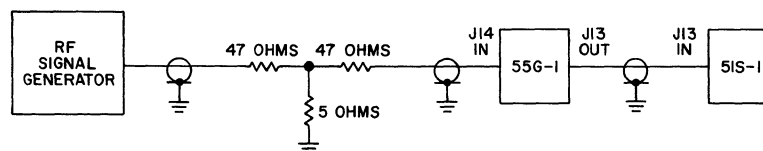

Figure 4-1. Connection of RF Signal Generator to 55G-1.
- c. Connect an rf signal generator to 55G-1 input through a 10-to-1 voltage divider as shown in figure 4-1.